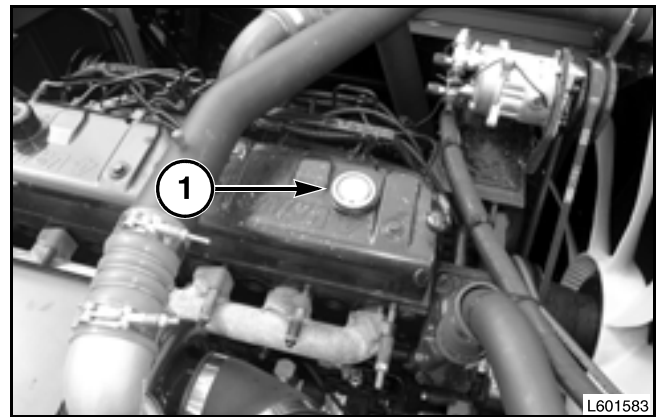

FIG. 109
FIG. 109: Remove the filler cap (1) and fill crankcase through filler cap hole in valve cover to the correct level with the correct oil. Run engine and check for leaks. DO NOT run engine above idle speed until oil pressure has built up.